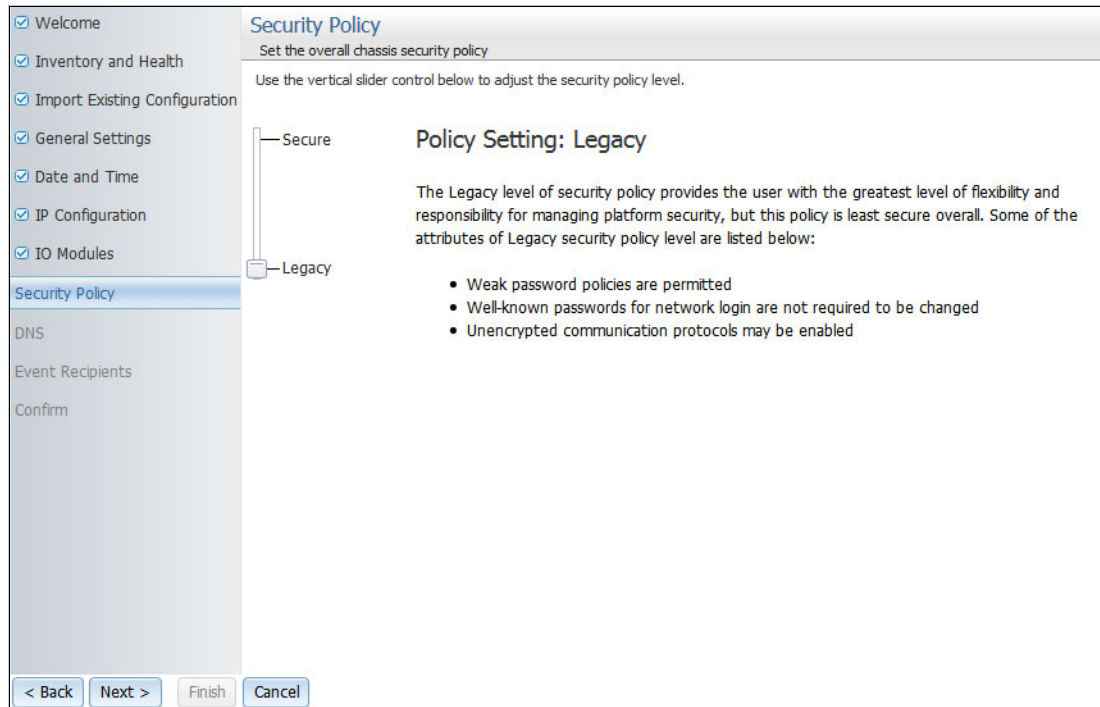

Figure 4-15 Security Policy window
- g. Select the security policy for your CMM as shown in Figure 4-15. Click **Next**.